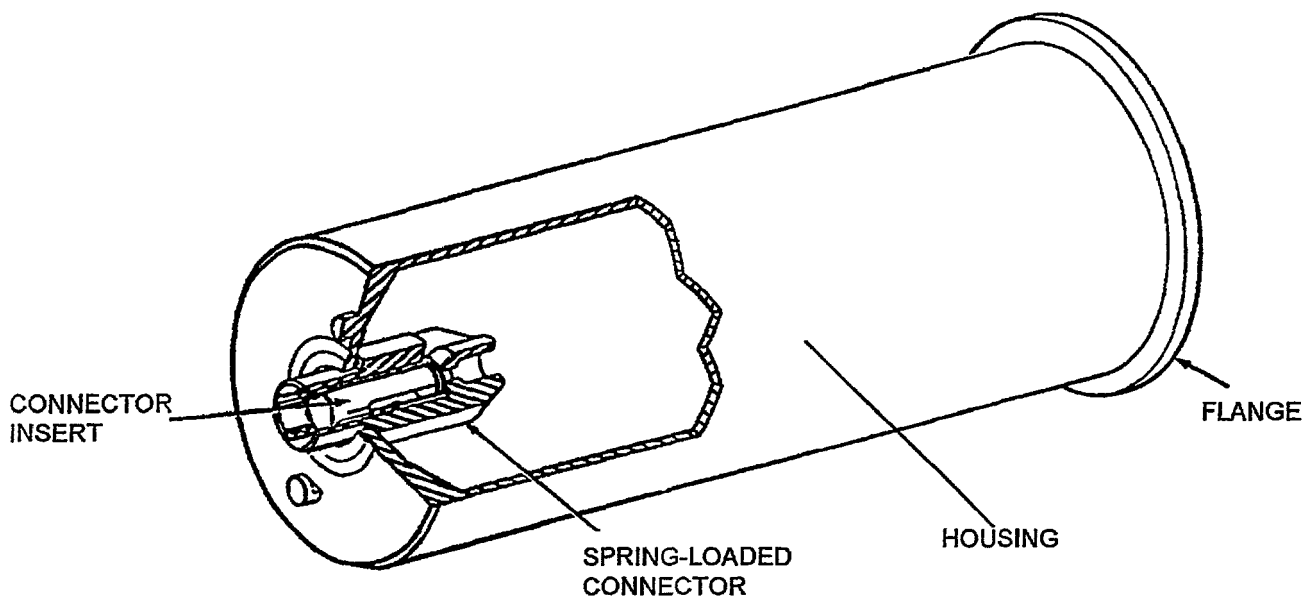

Figure 4-14B. Booster Inspection
- (1) If there is not external evidence of moisture, remove safety plug and safety cover assembly and inspect for rust or moisture. (Reject)
- (2) Inspect booster cavity for damage. (Reject) Using cleaning cloth, wipe out any dust, lint, or foreign matter.
- (3) Verify that component does not exhibit external damage that will affect its fit or function. (Reject)
- (4) Ensure preformed packing on cover does not stick to booster. Retain the safety plug and safety cover assembly for disassembly, if applicable.
- (5) Inspect connector insert. If loose, partially withdrawn or missing, reject booster (Figure 4-14B).
- d. Inspect booster for loose crimp between the housing and the flange by lightly twisting while holding housing (Figure 4-14B). (Reject)
- e. Ensure spring-loaded connector is present on aft end of booster and securely installed (Figure 4-14B).